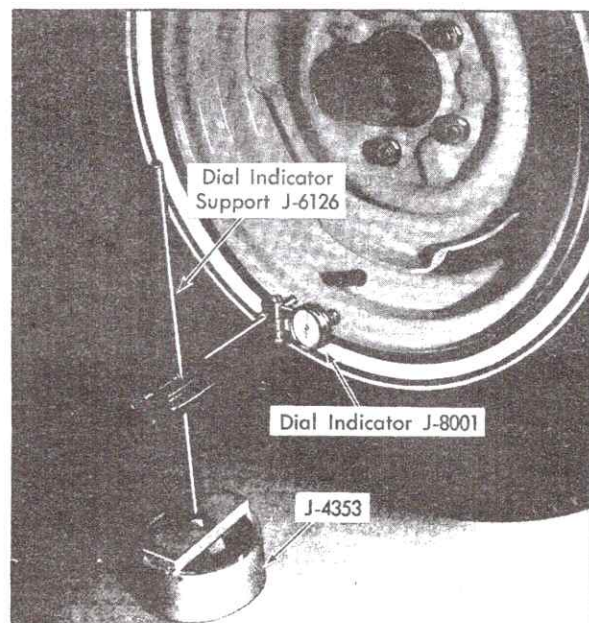

Fig. 10-9 Checking Lateral Runout At Bead Seat (Except 693)
6. Set indicator at zero, and with tire and wheel assembly raised, check lateral wheel runout at bead seat by positioning Dial Indicator Extension on vertical face of rim bead seat (felloe band) Fig. 10-9. Rotate tire and wheel assembly, note and record amount of runout. Mark rim where minimum and maximum runout occurs. Maximum runout as measured on rim bead seat should not exceed .045 inch.